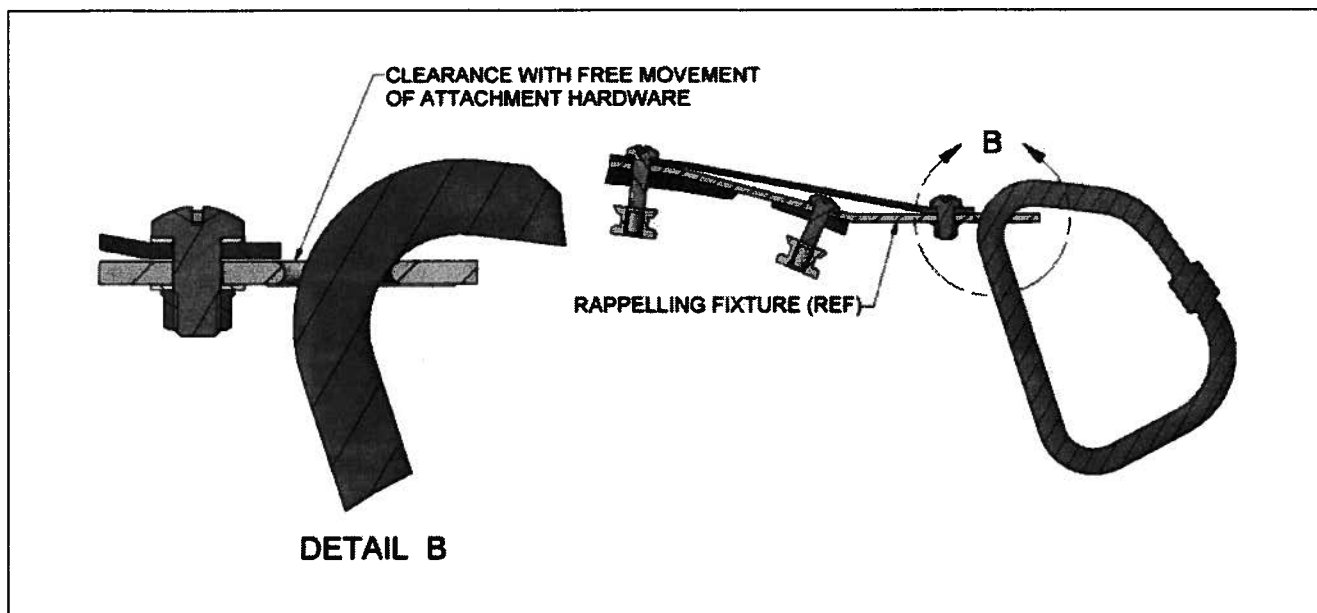

FIGURE 2. ACCEPTABLE RAPPELLING FIXTURE LOAD ATTACHMENT
8. Note acceptable Rappelling Fixture load attachment as shown in Figure 2